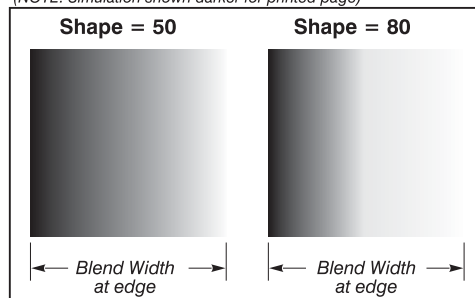

Figure 3.29. “Shape” Examples
- ❑ **Blend Shape** determines the rate of roll-off across the blend width, i.e. how quickly the white levels across the blend change from light and dark. Increasing the *Blend Shape* setting accelerates the rate of change at both extremes so that *less* of the region appears mid-gray (see Figure 3.29.) Decreasing the *Blend Shape* setting slows the rate of change so that *more* of the region appears mid-gray. For most applications, this subtle control is best left close to 50.